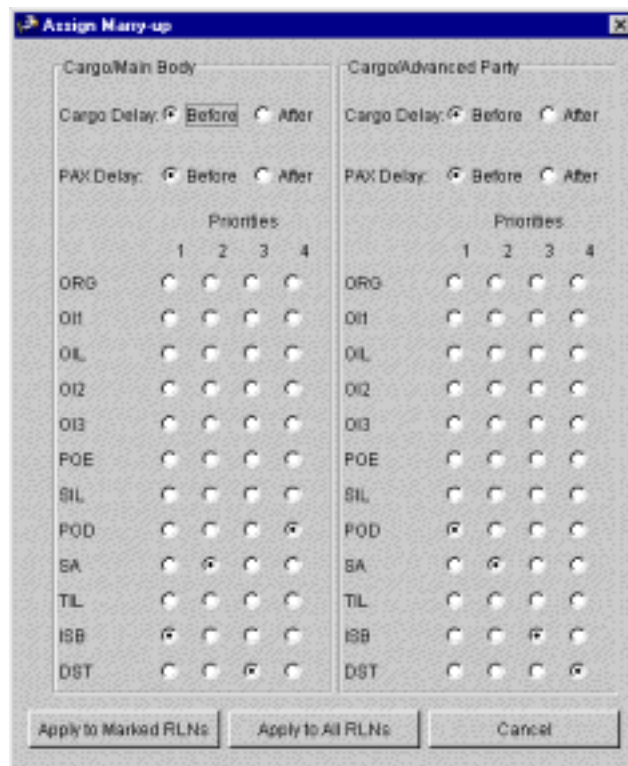

Figure 5.219 Assign Marry-up Window
- On the Tools menu, click the Assign Marry-up command. The Assign Marry-up window opens (Figure 5.219).